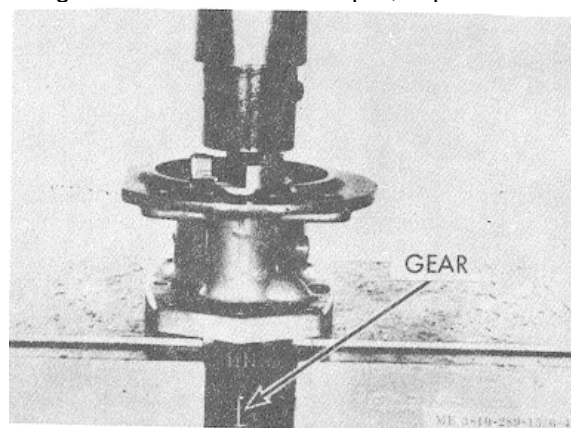

Figure 3-42. Drive cover assembly pressed from front cover.
a. Removal. Refer to paragraph 3-2 and figure 3-42 and remove drive cover assembly.
(1) Check governor weight carrier shaft in its bushing before removal.
(5) Install a longer capscrew in place of drive coupling retainer capscrew (1, fig. 3-45) press on cap screw to press drive gear assembly from front cover (fig. 3-42).
(6) Press drive shaft oil seals from drive cover.